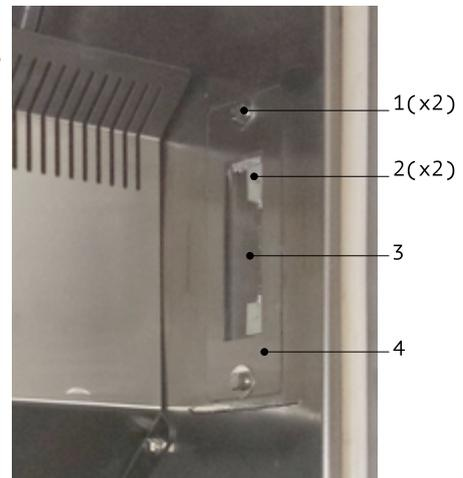

Figure 6
2. Open the chamber. Lamp is located on a side wall of the chamber, see Fig. 6.
3. Remove two screws (1) that holds protective cover (4); then take the cover off. If it is stuck, carefully insert flat screwdriver under the metal frame of the cover and turn it gently to detach the cover.
4. The lamp (3) is held by two spring loaded lamp sockets (2). Take the lamp firmly and press towards one of the socket, then release the opposite end of the lamp from the socket, and finally release the second end and take the lamp out.